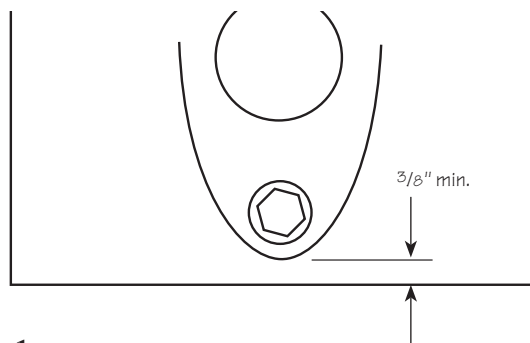

Figure 1
- 2. Check jaw height** – To accommodate the aluminum cover, the thrust plates must be oriented vertically as shown in **Figure 1**. If they are not, remove the screws holding them in place, rotate the thrust plates as required and reinstall the securing screws. There must be at least $\frac{3}{8}$ " from the bottom edge of the thrust plates to the bottom of the front vise jaw. If there is, skip ahead to step 7. If not, the bottom surface of the front jaw will need to have a $\frac{3}{8}$ " thick extension piece added as explained in steps 3 to 6. Though not necessary, adding a second strip to the bottom surface of the rear jaw will leave a deeper and constant jaw height.